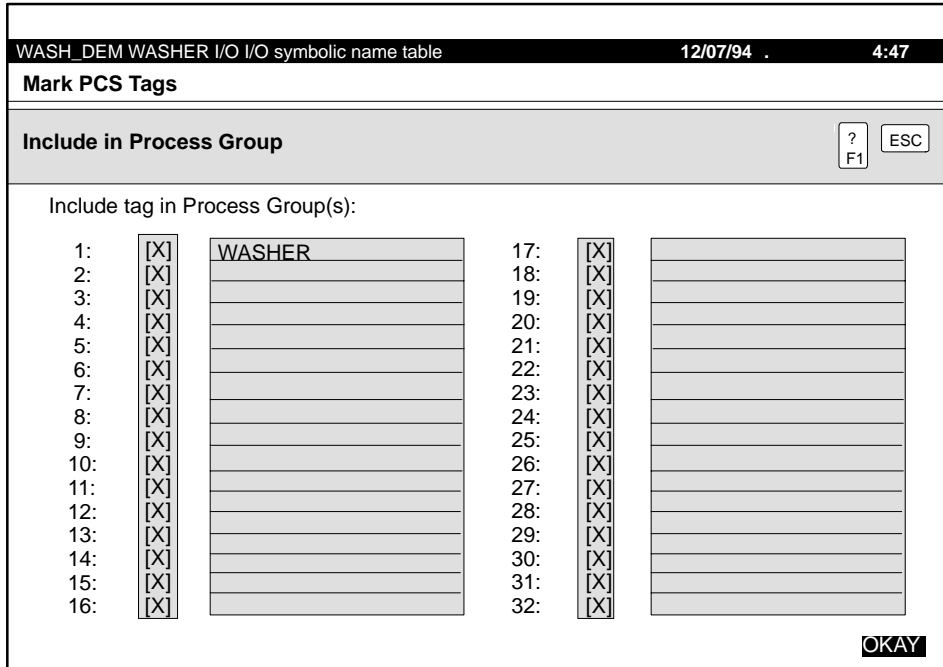

Figure 8-6 Menu for Process Groups
1. To access the process groups sub-editor, place the cursor on the object (or on the extension, if a complex object) and press ALT S . Figure 8-6 shows the process groups for SPIN_SPEED.